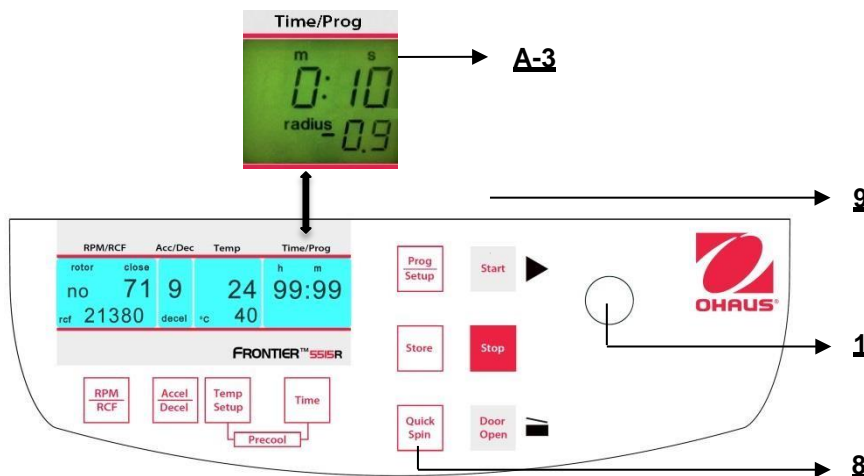

Figure. 26
You can start the centrifuge either with the "**Start**" key (9) (refer to figure 26) or the "**Quick Spin**" key (8).